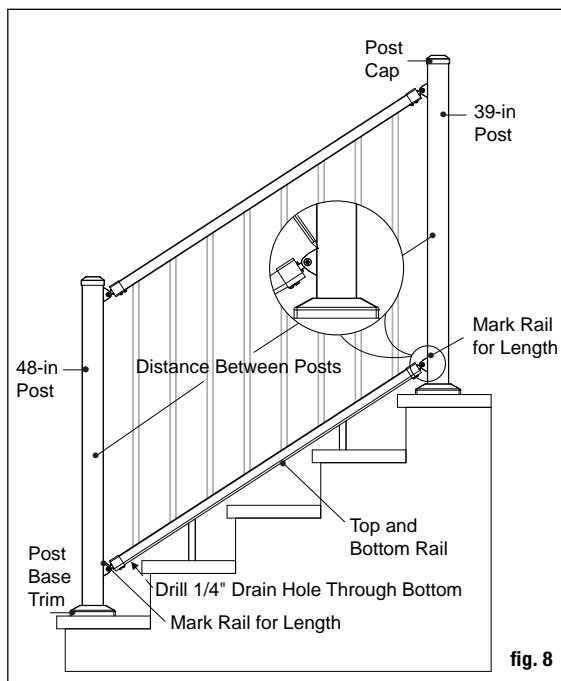
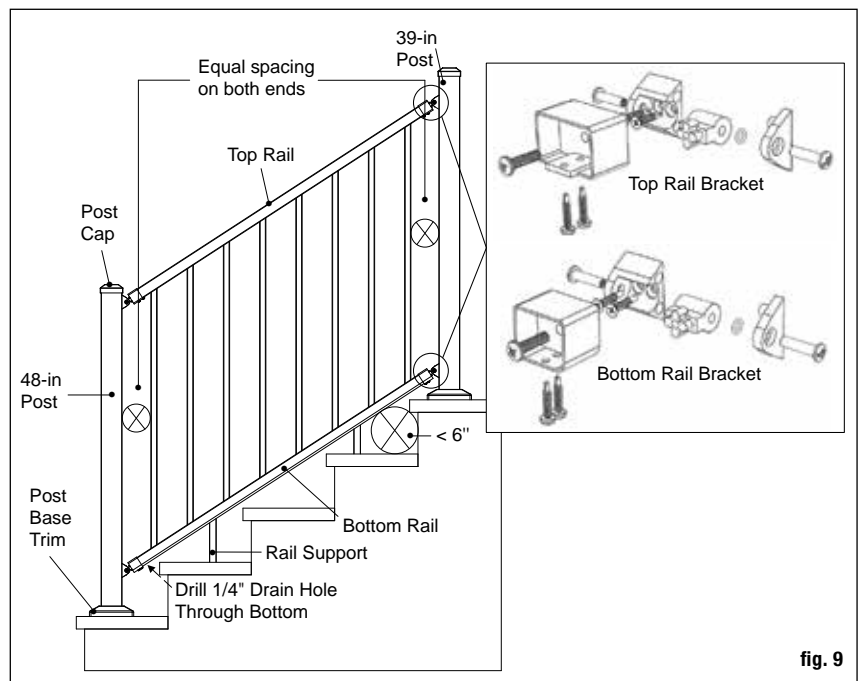

fig. 8
fig. 9
**Step 8** A rail support is needed every 2 feet (**2 are included in the 6ft rail kit, 3 in the 8ft kit**). Attach rail support connectors to the bottom of the lower rail at 2-foot intervals using included screws. Predrill using a 1/8" drill bit. Mark the location of the rail support on the step tread and attach the other rail support connectors to the step tread (fig. 8). **Drill one 1/4" drain hole through the bottom of the rail to prevent trapping water. Position the hole toward the lower end of the rail, roughly 1.5" from rail end to avoid the lower bracket.**
**Step 7** Position the rail between the posts. Check for level end-to-end and vertically. Pre-drill rail using a 7/64" drill bit. Attach brackets to the post at one end. Repeat for the other end. *Note: Use a driver extension bit to avoid marring the rail with the drill chuck* (fig. 8 and fig. 9).